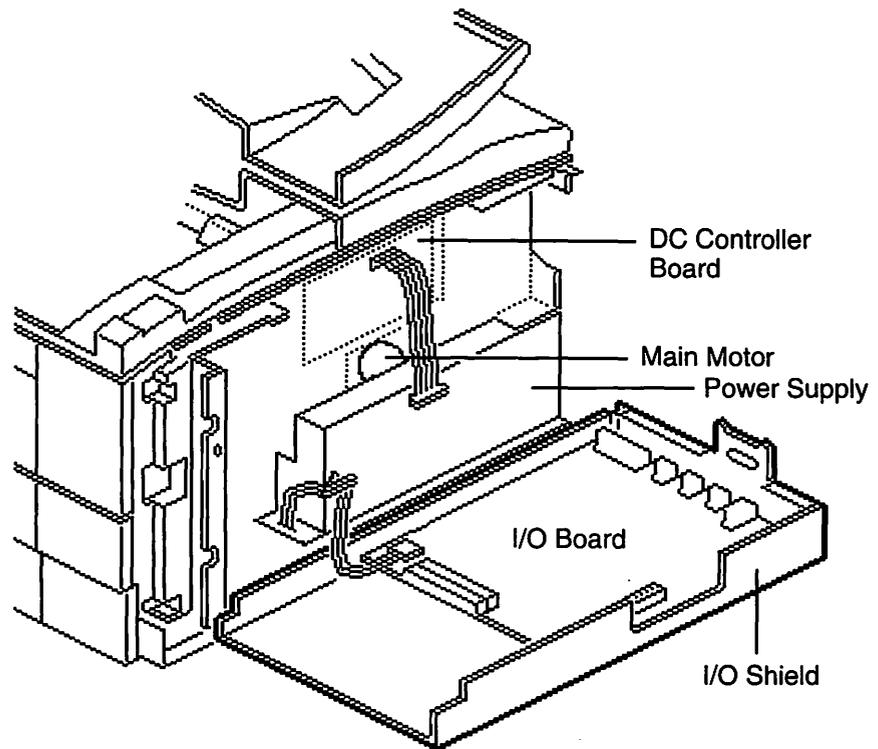

Figure 1-3
- The power supply (see Figure 1-3) houses the AC power receptacle and the printer on/off switch. The power supply provides AC power to the fuser assembly and DC power to the DC controller board. The fan operates when the printer is switched on.
- The I/O shield (see Figure 1-3) secures the I/O board to the printer. The I/O board controls communications between the printer and external devices, and prints the user test page. The I/O board contains the cable connectors, ROM, RAM, and the printer’s microprocessor.
- The DC controller board (see Figure 1-3) is the interface between the I/O board and the print engine. The DC controller board controls the printer, distributes DC power, and prints the service test page. This board also controls the pickup controller board, discussed later in this section. Immediately after you switch on the printer, the DC controller board detects whether the ready states are present, and if they are, signals the I/O controller to print the user test page.
- The main motor (see Figure 1-3) runs the drive assembly. The drive assembly is discussed in the "Print Cycle Completion" section.